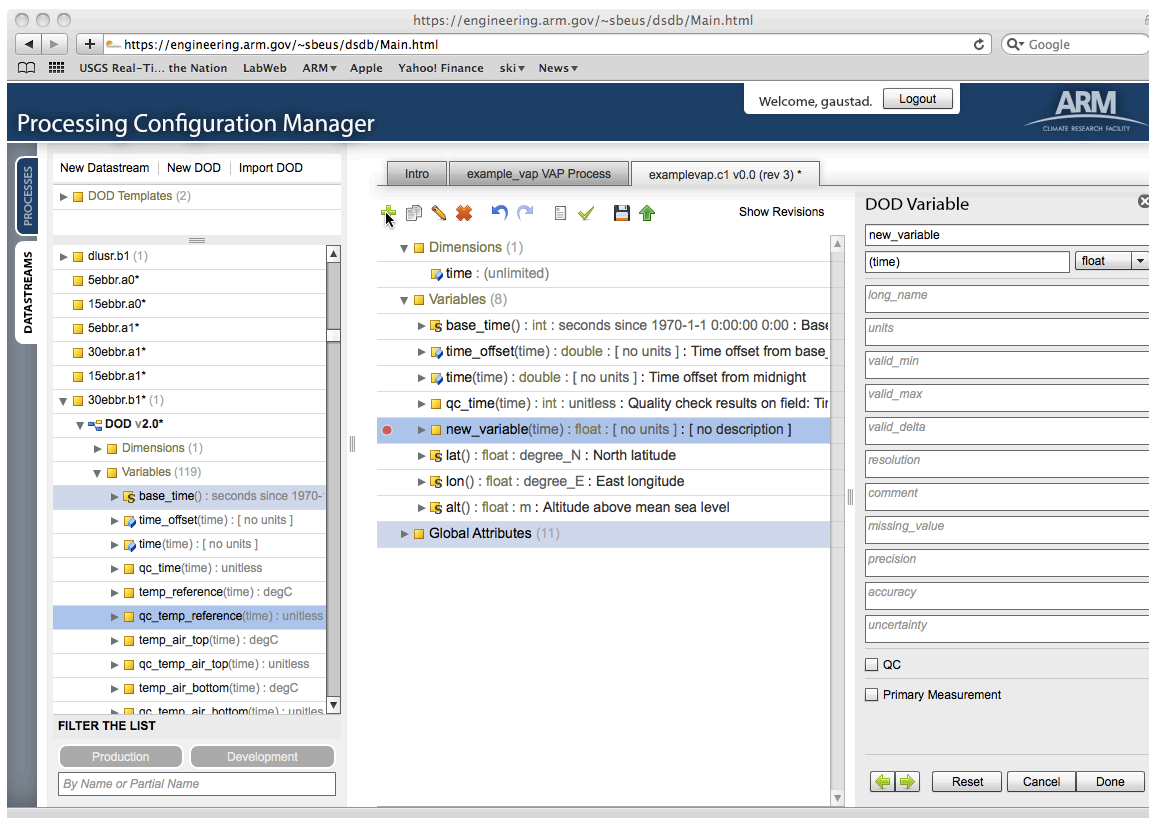

Figure 5.5. Adding New variable Using New DOD Element and the Green Plus Icon
- b. Expand the datastream, the desired DOD version, and variables of the input datastream (see Figure 5.5).